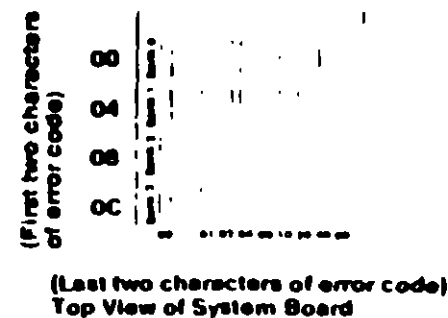

Figure 2. System Board
- Find the failing bank and module in Figure 2